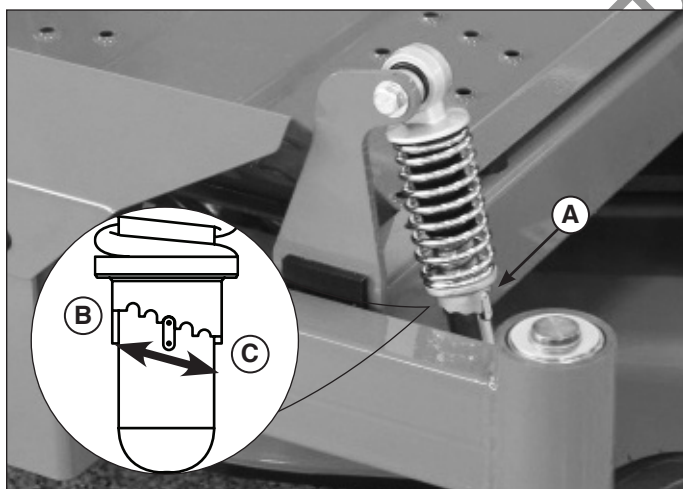

Figure 14
2. Turn the pre-load adjustment collar (A, Figure 14-front shown, rear similar) to a higher notch (B) to decrease the pre-load, or to a lower notch (C) to increase the pre-load. Make sure all shocks are set to the same amount of pre-load.